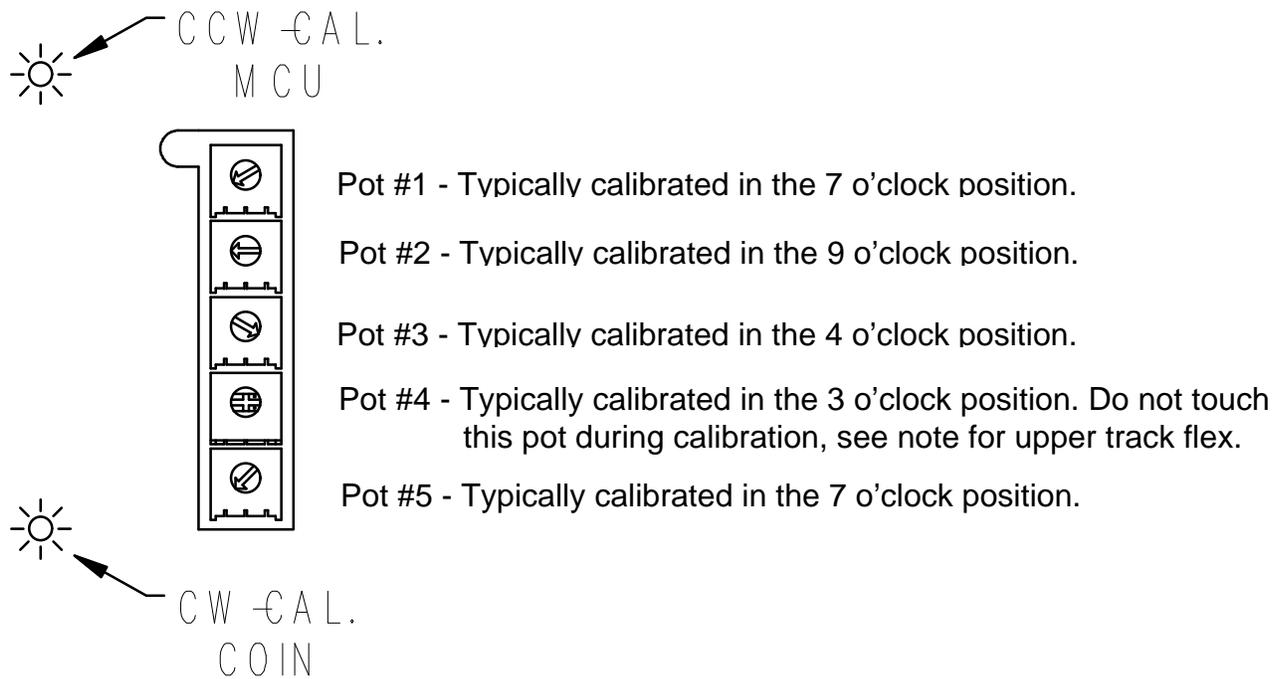

Figure 3
3. Remove calibration potentiometer cover. This is located on the MCU cover and can be removed by prying off with a small screwdriver. Refer to Figure 3.
CALIBRATION NOTE: The note acceptor calibration process is identical for each potentiometer. There are two lights (MCU - Coin) used to indicate the direction the potentiometer must be turned in order to achieve calibration (See Figure 3). The LED on the bottom, when lit indicates that the potentiometer being adjusted should be turned clockwise. If the LED on the top is lit the potentiometer should be turned counter clockwise.